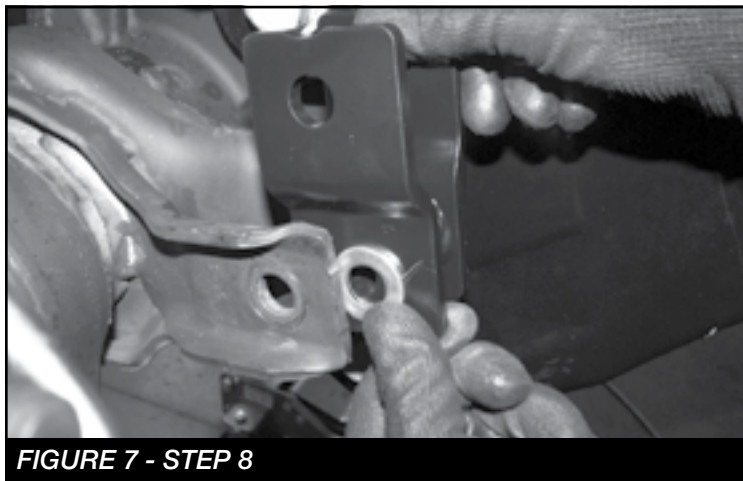

FIGURE 7 - STEP 8
8. Locate the FT30580BK (driver shock extension), using the factory lower shock hardware, install the shock extension into the factory lower shock mount. **NOTE: See figure 7 for proper offset. The offset needs to be going away from the vehicle. Insert a supplied M14 washer between the factory and new Fabtech brackets. Torque to 160 ft-lbs. NOTE: If installing a Dirt Logic shock do not install lower shock extension. Install the Dirt logic directly into the factory mounts using the M14 washers to fill in the gap on the lower mount. SEE FIGURES 7-8**